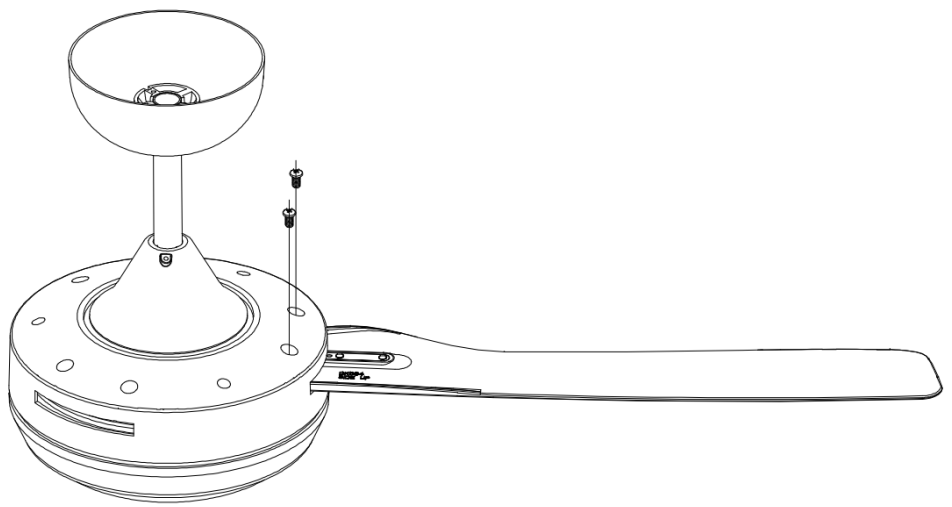

Fig. 5b
2. insert the blade into the slot of rotating member of fan motor assembly. Align the 2 holes on the blade with the 2 holes on the rotating member of fan motor assembly and using the 2 blade screws in step 1, to secure the blade to the fan motor assembly. (Fig. 5b)